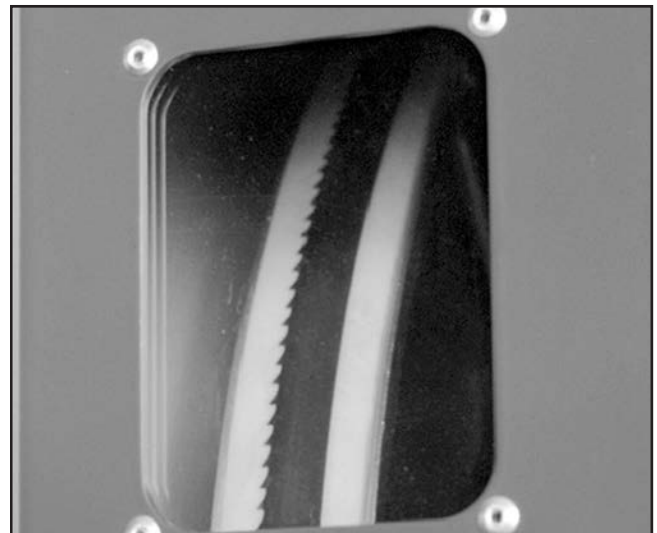

Figure 67. Blade tracking window.
2. Observe the blade tracking path through the clear window on the right edge of the bandsaw, as shown in **Figure 67**.